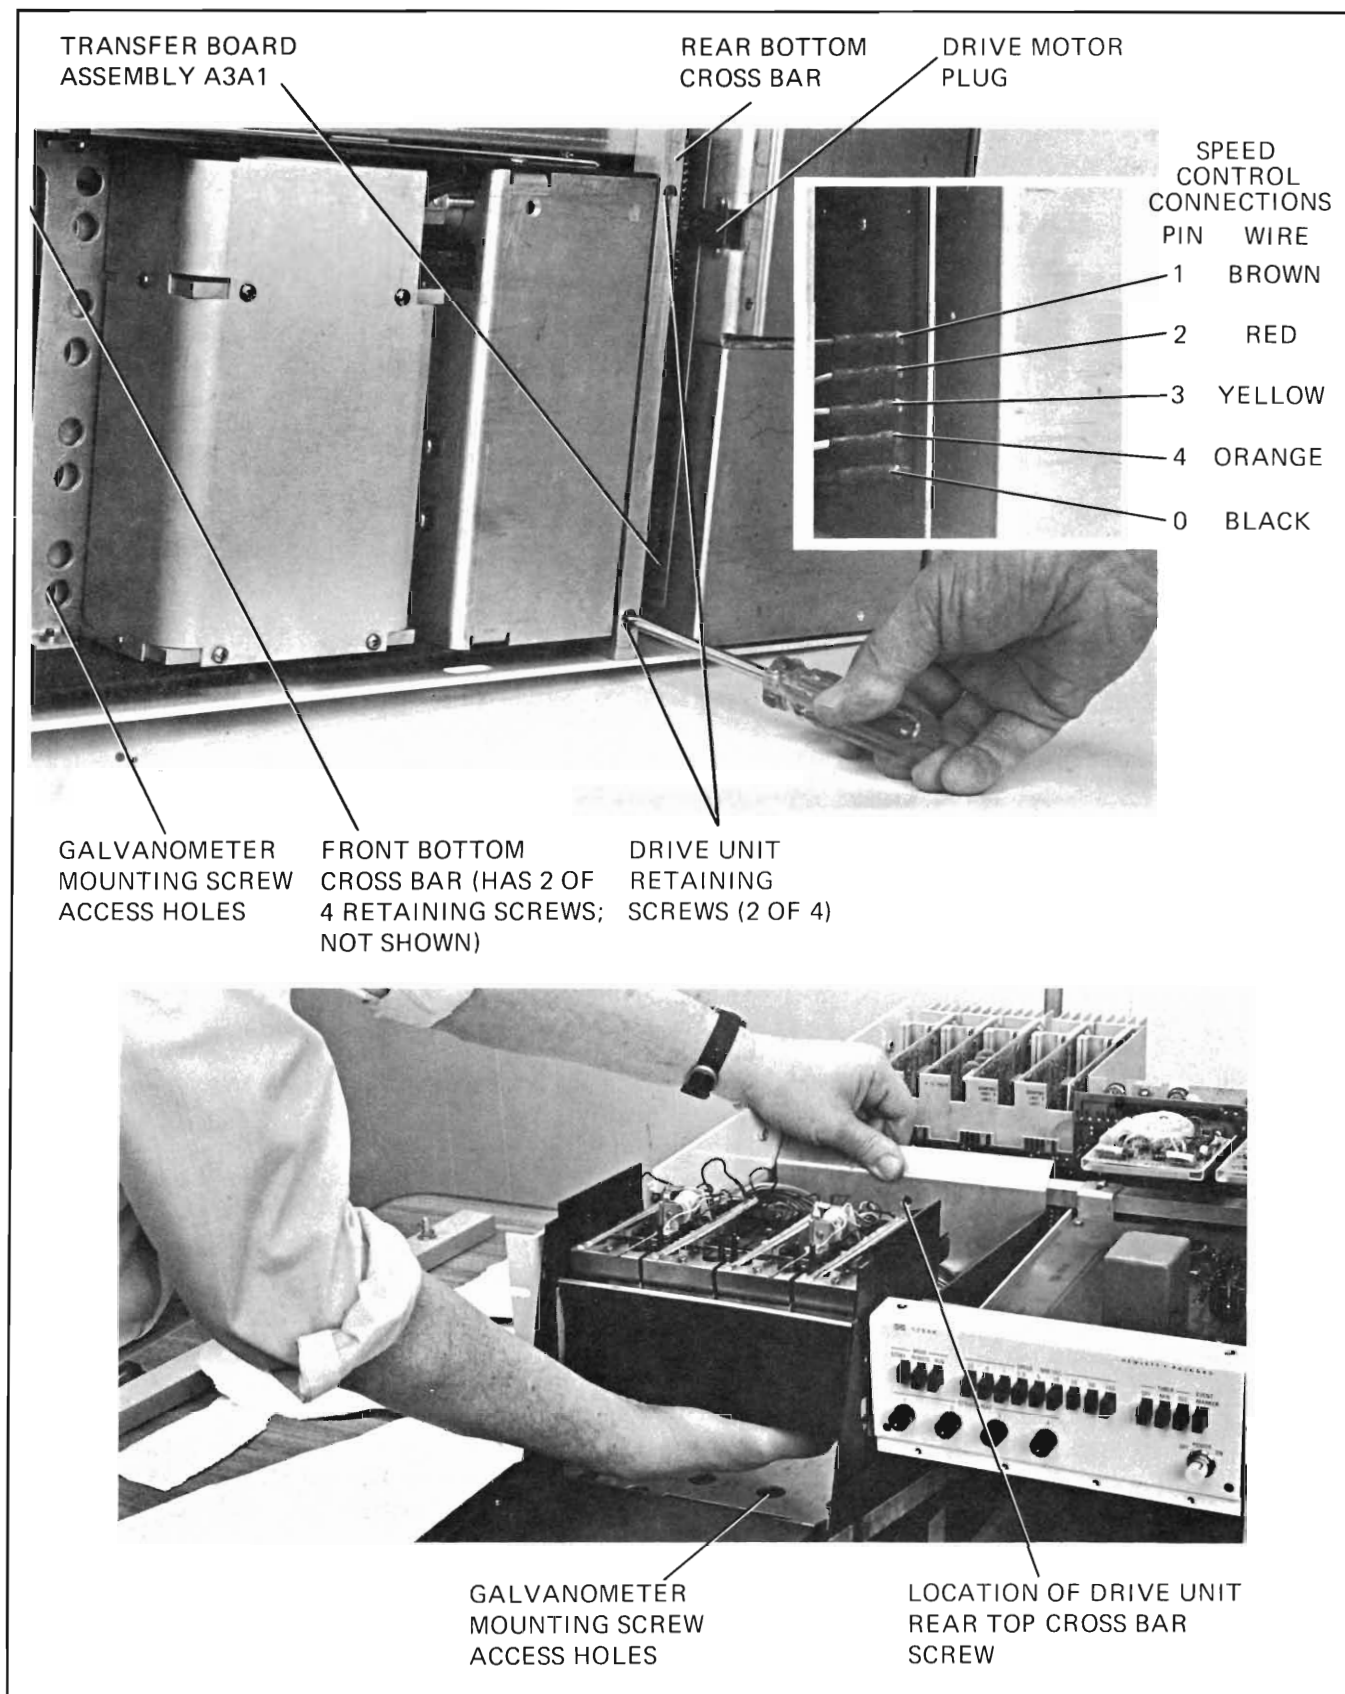

Figure 5-12. Drive Unit Removal
- b. Refer to Figure 5-12 and disconnect the drive motor plug and speed control wires (inset). Remove four screws from the front and rear bottom cross bars. Two typical screws are shown in the illustration.
- e. Remove one flat-head Pozidriv screw from upper rear center portion of paper feed tray on Drive Unit (Figure 5-12, lower illustration).